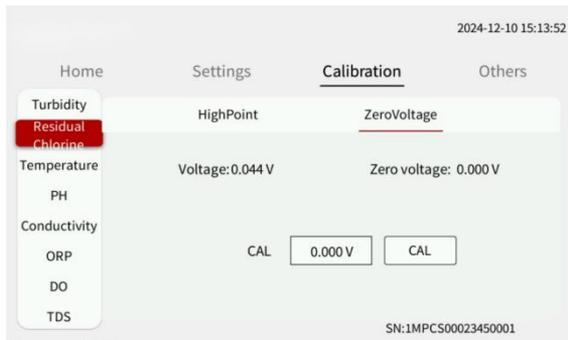

Fig.9 Display of Zero Calibration
- 3) In the zero calibration interface, input the voltage of chlorine-free water measured by the sensor, and click Calibrate, as shown in Fig.9.